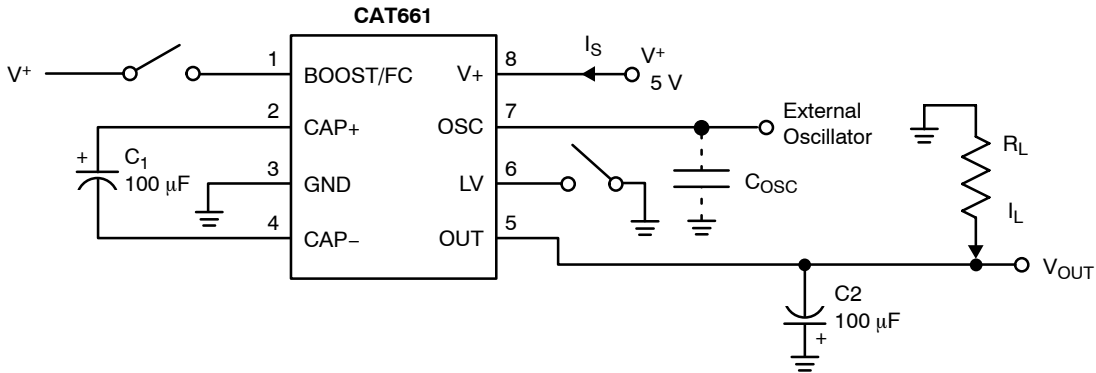

Figure 3. Test Circuit Voltage Inverter
Table 3. ELECTRICAL CHARACTERISTICS (V+ = 5 V, C1 = C2 = 100 µF, Boost/FC = Open, C_{OSC} = 0 pF, and Test Circuit is Figure 3 unless otherwise noted. Temperature is T_A = T_{AMIN} to T_{AMAX} unless otherwise noted.)
1. In Figure 3, test circuit electrolytic capacitors C1 and C2 are 100 µF and have 0.2 Ω maximum ESR. Higher ESR levels may reduce efficiency and output voltage.
(Typical characteristic curves are generated using the test circuit in Figure 3. Inverter test conditions are: $V_+ = 5\text{ V}$, $LV = \text{GND}$, $\text{BOOST/FC} = \text{Open}$ and $T_A = 25^\circ\text{C}$ unless otherwise indicated. Note that the charge-pump frequency is one-half the oscillator frequency.)